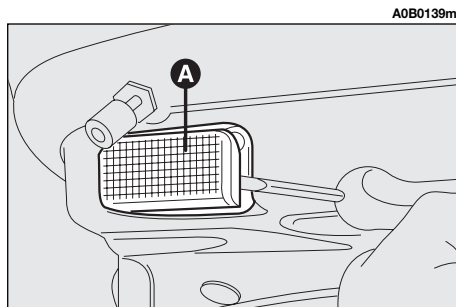

fig. 57
- Remove the light (**A-fig. 57**) levering with a flat-tipped screwdriver in the point shown.